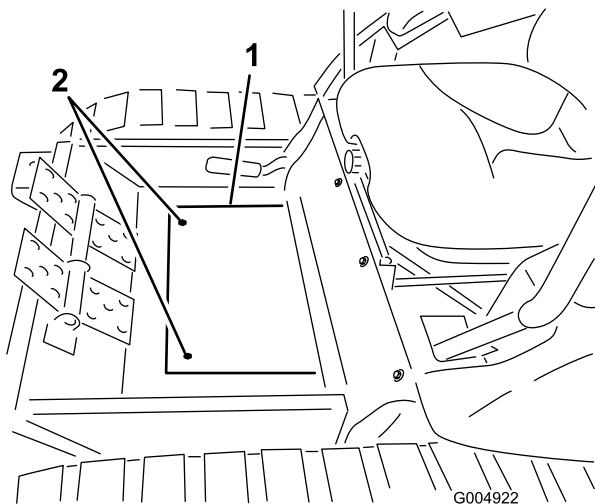

Figure 51
25. Install the winter frame floor plate cover to the floor with the screws previously removed (Figure 51).